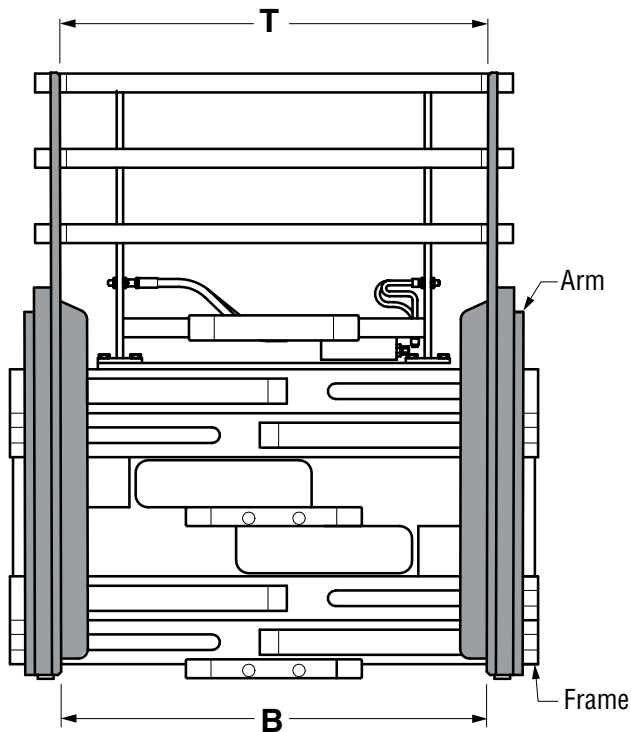

Figure 1-1
- 1) Carton clamp arms must be inside the frame as shown in Figure 1-1. Measurements T and B are taken at the pivot point (center of pad).